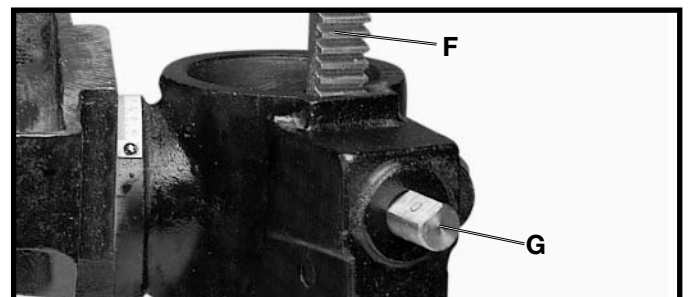

Fig. 6
3. Insert raising rack (F) Fig. 6, which was removed in **STEP 1**, into groove in table bracket making sure teeth of worm gear (G) located inside table bracket are engaged with teeth of raising rack (F).